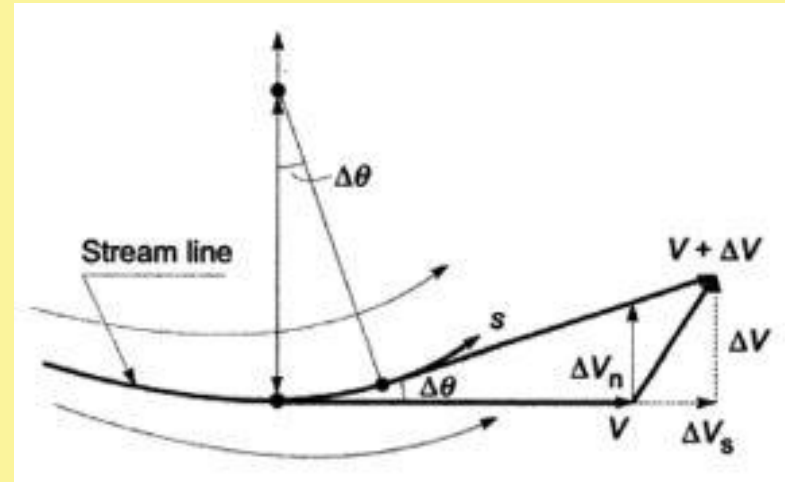

Fig.5
- In the natural co-ordinate system, viz., along and across a streamline (Fig. 5).